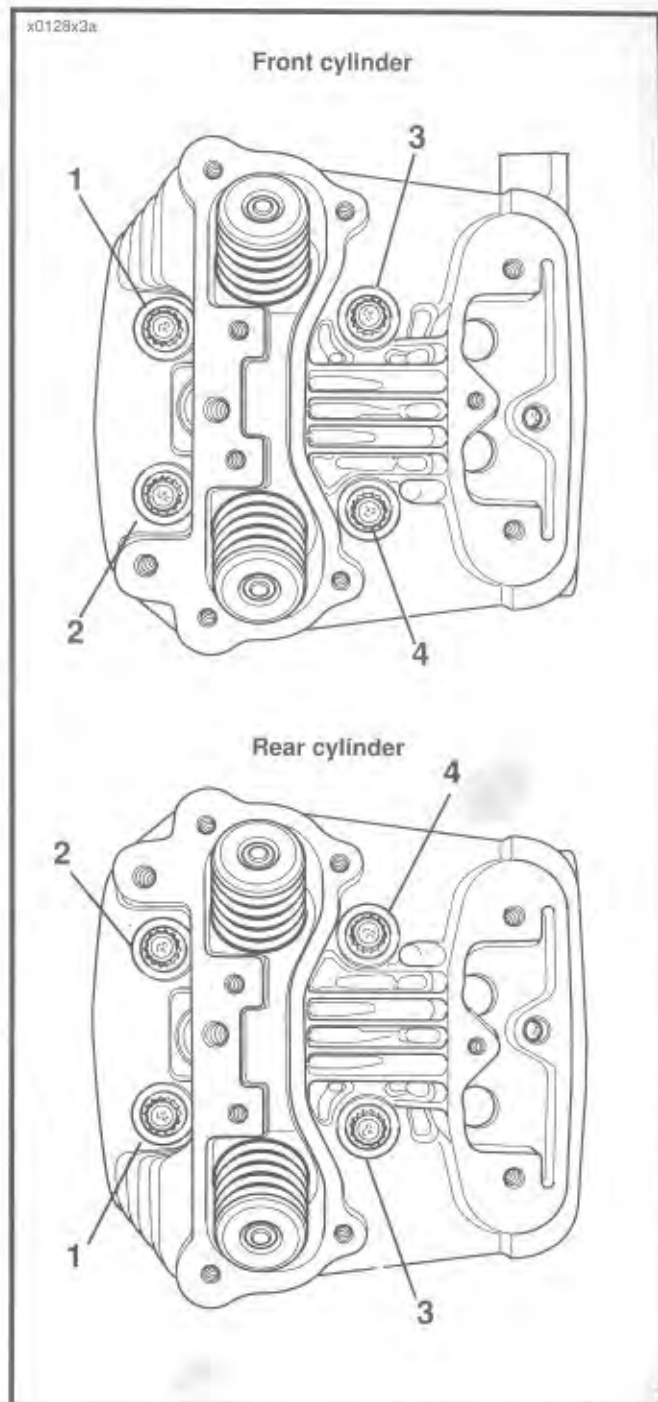

Figure 3-7. Head Screw Loosening / Tightening Sequence
Distortion to the head, cylinder, and crankcase studs may result if head screws are not loosened (or tightened) gradually in the sequence shown in Figure 3-7.
9. See Figure 3-7. Loosen each head screw 1/8-turn following the sequence shown.